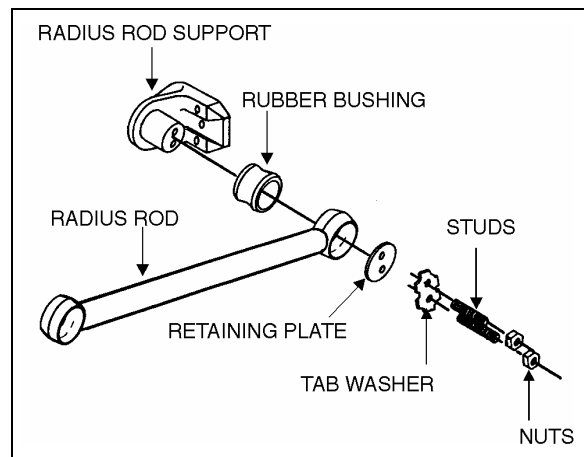

FIGURE 34: TYPICAL RADIUS ROD SETUP
1. Flatten the tab washer which secures the two retaining nuts (or bolts), then unscrew the nuts (or bolts) at each extremity of the radius rod (Fig. 34).